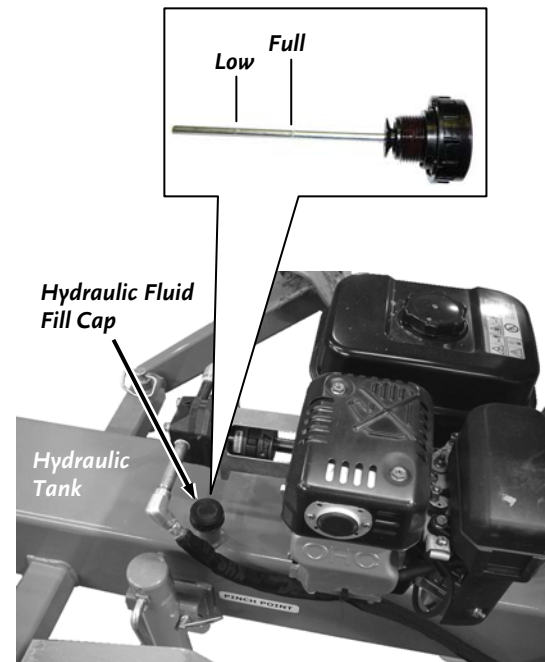

Figure 38
7. Remove the Hydraulic Tank Fill Cap/Dipstick and fill the Hydraulic Tank with the recommended type and quantity of hydraulic fluid until the level reaches the fill mark on the Dipstick (**Figure 38**). Refer to the Spec sheet on page 2.